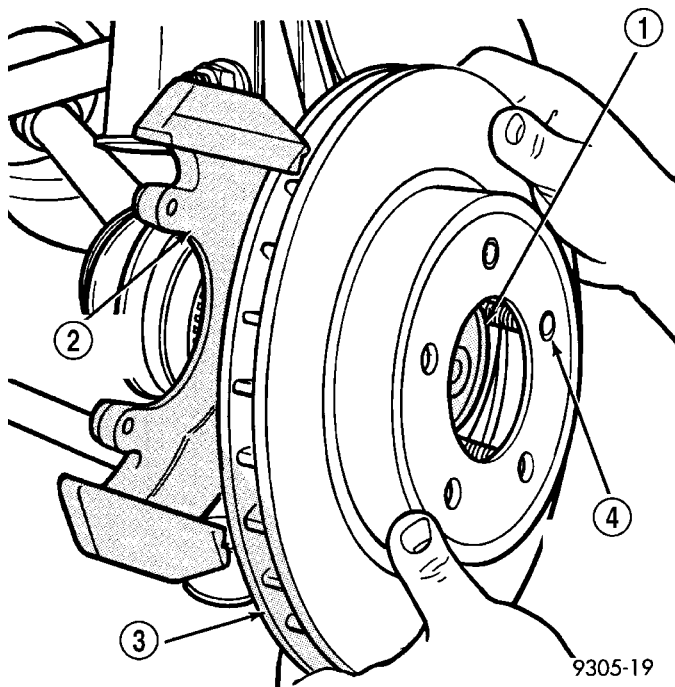

Fig. 93 Front Rotor Removal/Installation
(1) Remove disc brake caliper and store (hang) it out of the way following the procedure found in Brake Pads/Shoes. (Refer to 5 - BRAKES - BASE/HYDRAULIC/MECHANICAL/BRAKE PADS/SHOES - REMOVAL)
(2) Remove any clips retaining the brake rotor to the wheel mounting studs.
(3) Remove brake rotor from hub by pulling it straight off wheel mounting studs (Fig. 93).
(1) Install brake rotor over the wheel mounting studs onto hub (Fig. 93).
(2) Install disc brake caliper and shoes following the procedure found in Brake Pads/Shoes. (Refer to 5 - BRAKES - BASE/HYDRAULIC/MECHANICAL/ BRAKE PADS/SHOES - INSTALLATION)
(3) Pump the brake pedal several times to ensure the vehicle has a firm brake pedal to adequately stop vehicle.
(4) Check and adjust brake fluid level as necessary.